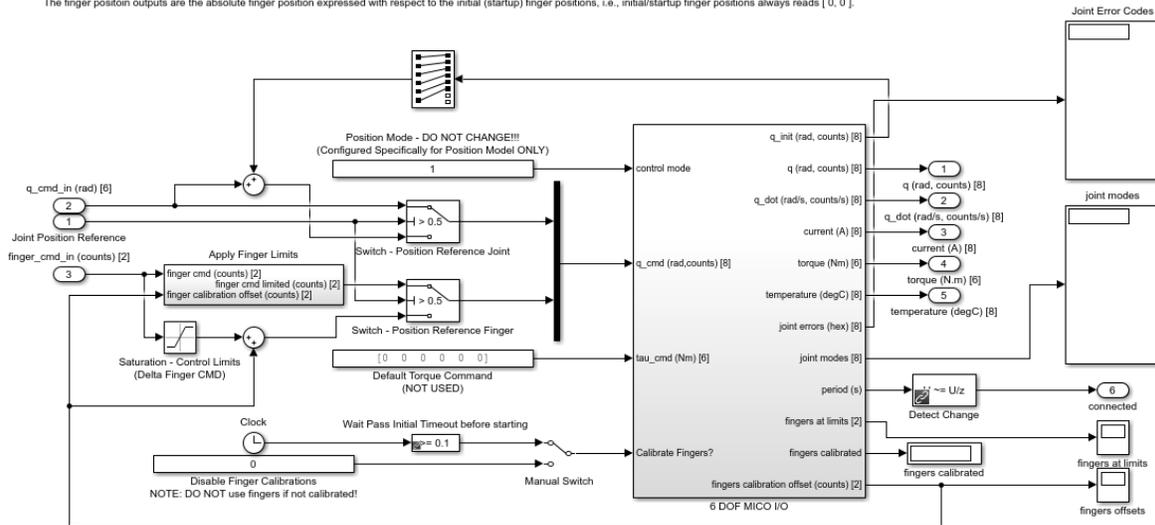
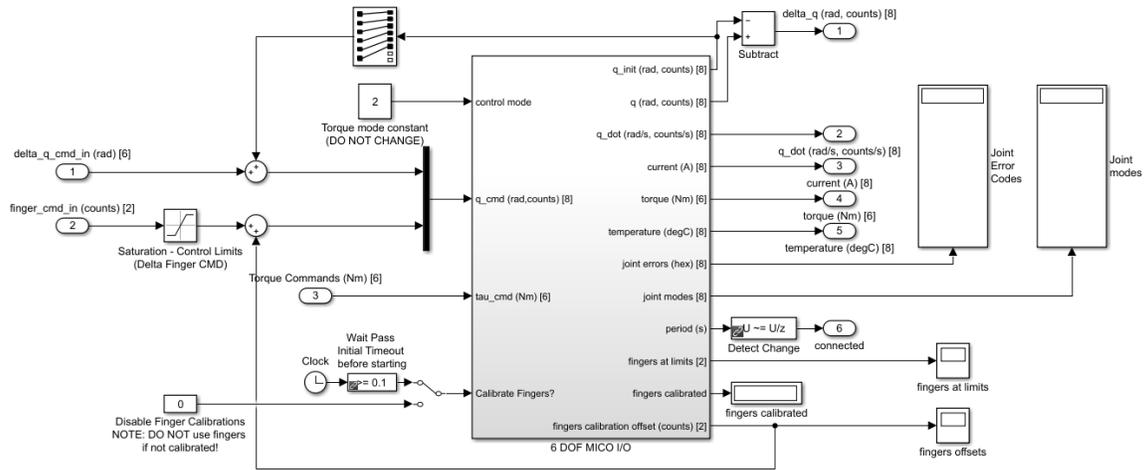

Figure 4.3: 6 DOF Position Mode (Joint Commands) subsystem
Figure 4.4: MICO 6 DOF - Torque Mode subsystem block
The interior of the *MICO 6 DOF - Position Mode (Joint Command)* subsystem is shown in Figure 4.3. The input joint commands can be either absolute (DH) joint positions or incremental joint position commands (based on the initial joint positions). The position reference mode is selected by the value of the “Position Reference” input:
- **Incremental (0):** position commands based on initial joint positions
- **Absolute/Global (1):** position commands based on D-H convention reference (HOME) coordinates
This is analogous to the subsystems described in 4.2. Torque-based control models such as MICO\_Position\_Control\_Torque\_Mode include a subsystem block called *MICO 6DOF Torque Mode (Torque Commands)* shown in Figure 4.4. It has some of the functionality as the *Kinova MICO - 6 DOF Position Motion Control* shown in Figure 4.3, but includes the ability to apply torque commands to each joint directly (instead of commanding joint positions) and includes the *Joint Safety* block. For torque mode models, this block does not provide a Joint Position Reference option, that is, in position mode, joint commands and readings are always incremental.